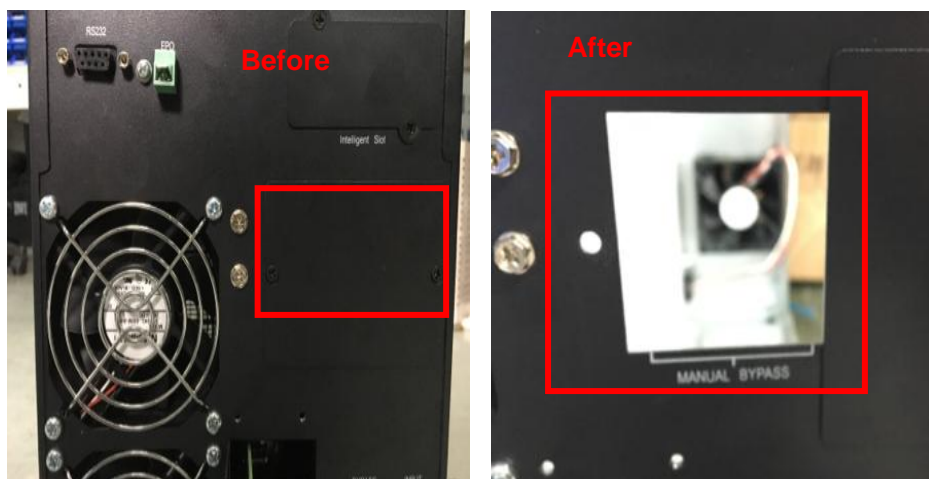

Figure 2 Remove the manual bypass cover
2. Remove the screws and manual bypass cover from cabinet ,as is shown in figure 2.